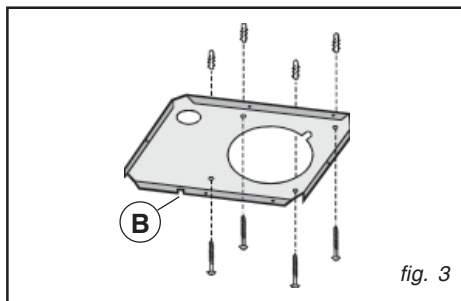
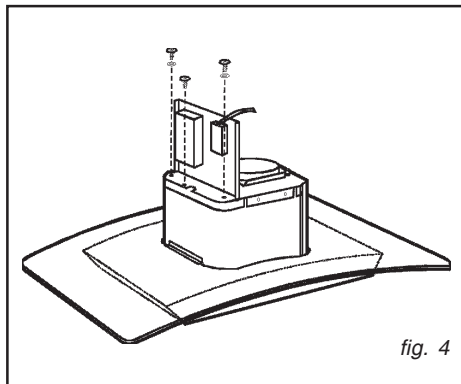

fig. 3
fig. 4
- Fix the bracket to the ceiling using the screws and screw anchors provided (Fig. 3). Be careful, because the position of the bracket determines the final position of the apparatus: the side with the slot B corresponds to the side opposite the controls. Fit the electrical system plate, securing it with 2 screws and 3 washers (Fig.4).